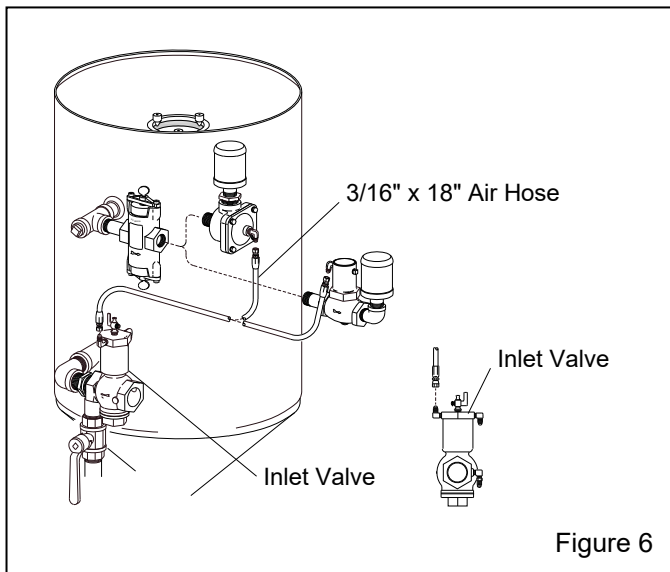

Figure 6
2.1.5 Connect the 3/16" x 18" air hose between the elbow fitting on the outlet valve and the elbow fittings facing UP at the top of the inlet valve, as shown in Figure 6.